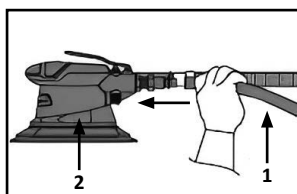

Fig. 3
1. Set the operating pressure in the compressor to 90 PSI (6.3 bar) and attach one end of the air hose (1) to the compressor and the other end of the air hose to the tool (2). (Fig. 3)